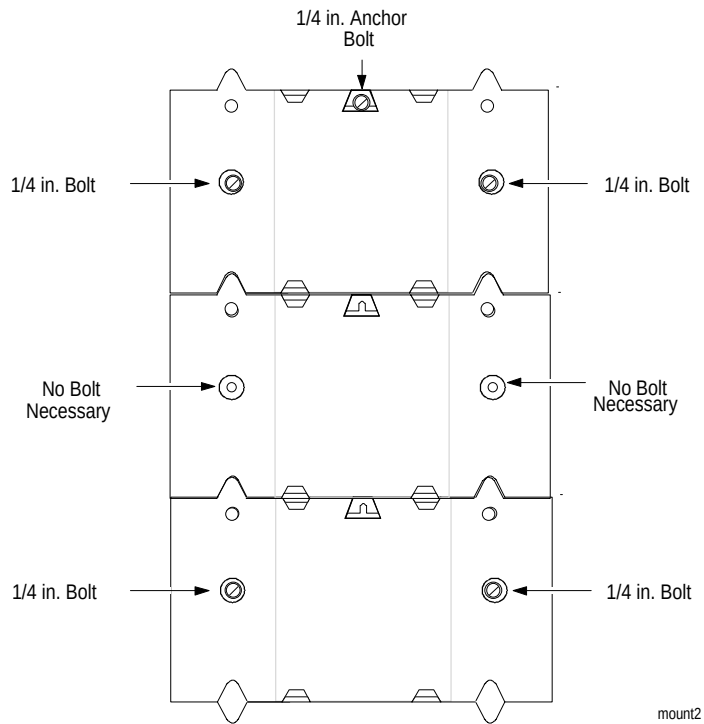

Figure 7: Bolt Locations When Mounting Multiple Enclosures
4. Hang the backbone over the bolt. Plumb the box. Mark the appropriate mounting holes along the wiring channels. (For units with multiple backbone sections, it is only necessary to install bolts in the four outside perimeter mounting holes, and alternate holes in the remaining sections--see Figure 7.)